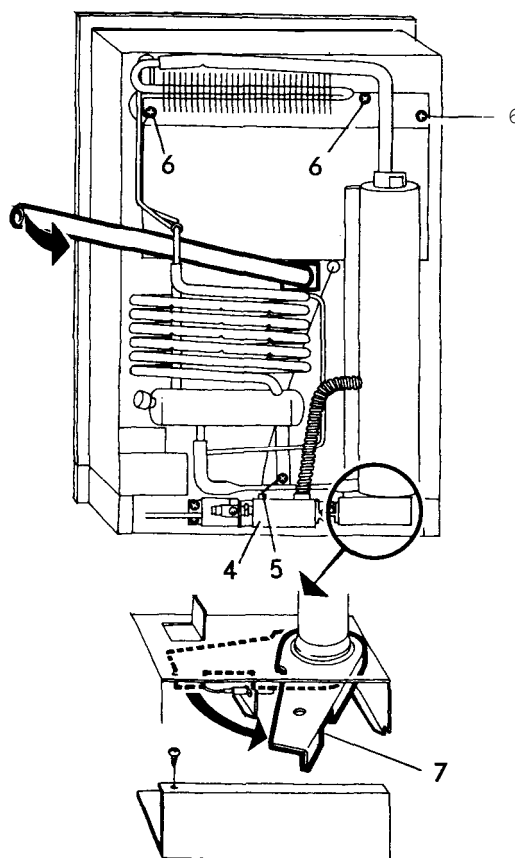

Fig.15
6. Remove the connection block (4) cover (Fig. 15) and disconnect the electrical wires for the heaters.
7. Remove the grounding screw (5).(Fig. 15).
9. Remove the screws (6), holding the absorption unit onto the back of the cabinet.
10. Disconnect the burner case by turning the lever (7) as shown in the picture.